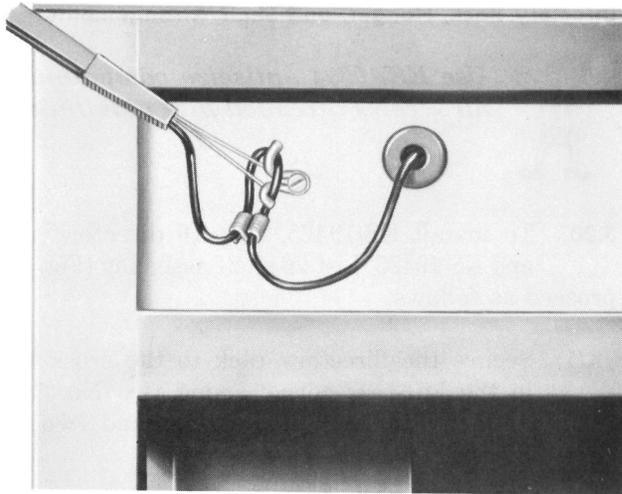
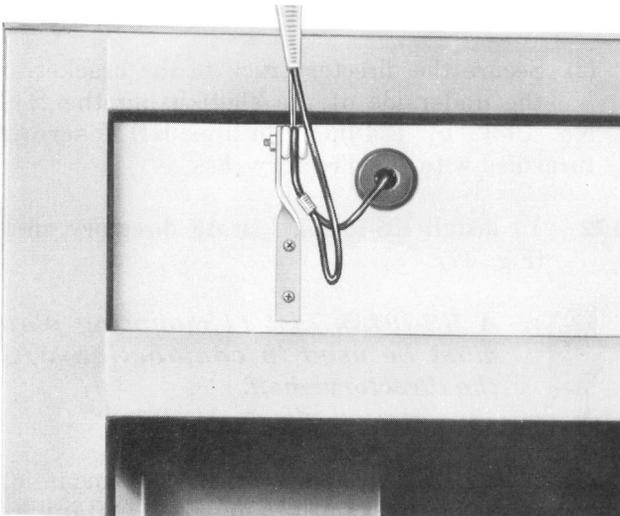

Fig. 12—Drop Wire Hook for First Attachment
Fig. 13—Corner Bracket for First Attachment
3.06 At outdoor locations, attach drop wire hook (Fig. 12) or corner bracket (Fig. 13) (whichever is required) to the KS-19425, List 21 sign blank assembly which may be located on the side or rear of the booth.
3.07 Secure drop wire hook (Fig. 12) to clinch nut (provided with sign blank assembly) using one 1/4-20 by 3/4-inch FHM screw.
3.08 If a corner bracket (Fig. 13) is used: